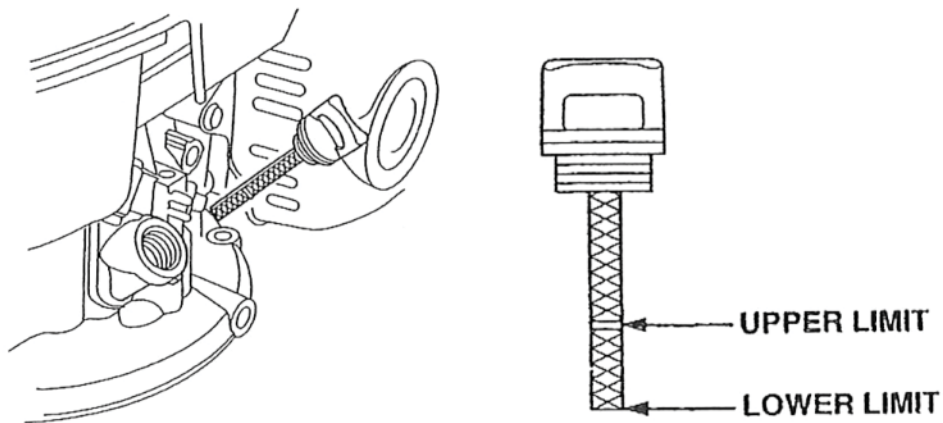

Figure 5
Before each use, ensure that the oil level is between the *Lower* and *Upper limit* marks on the dipstick (Fig.5)
6. Insert the dipstick into the filler neck BUT DO NOT SCREW IT IN. Then remove the dipstick and read the oil level. (Fig. 5)
1. Make sure the engine is filled with oil (Fig.5)